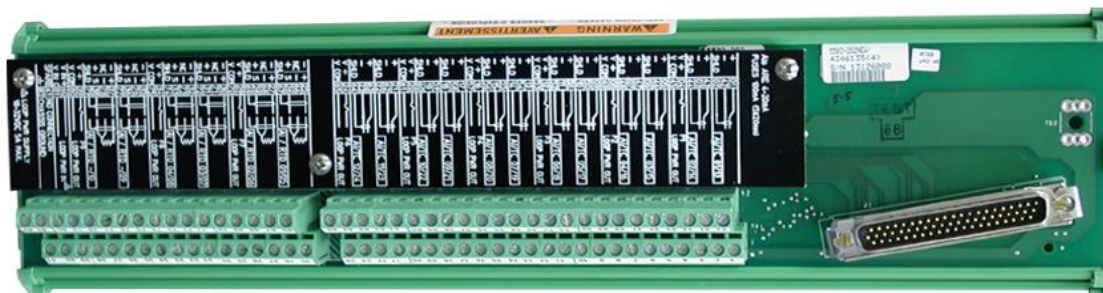

Figure 12-4. 34Ch HDVIM FTM
3. Locate and replace the fuse with another fuse of the same size, type, and rating, See Figure 12-4 for channel fuse location.